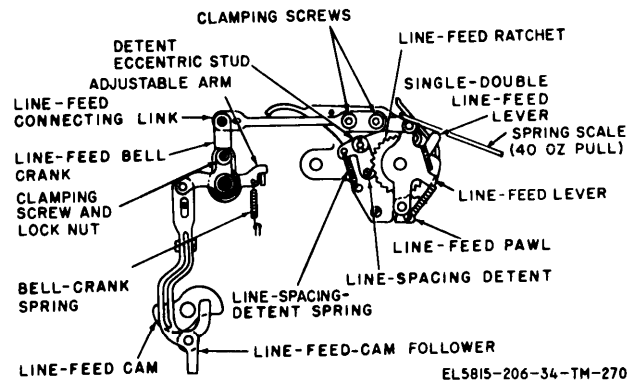

Figure 3-198. Line-feed bellcrank adjustment (TT-4B/TG and TT-698A/TG).
(fig. 3-198)
(1) Hook a spring scale on the upper arm of the line-feed lever and exert a downward and forward pull of 40 ounces on the spring scale while receiving repeated line-feed code combinations. This should not prevent the line-feed mechanism from turning the platen.
(2) When the teletypewriter is in the stopped position, attempt to rotate the platen forward and backward. It should rotate freely.
*c. Adjustment.* Loosen the clamping screws that hold the line-feed connecting link and position the single-double line-feed lever for double line feed operation. Select the line-feed code combination and turn the motor by hand until the line-feed-cam follower is on the high part of the line-feed cam. Rotate the line-feed lever (fig. 3-198) until the platen has advanced two line spaces. Tighten the clamping screws to hold the connecting link in this position,